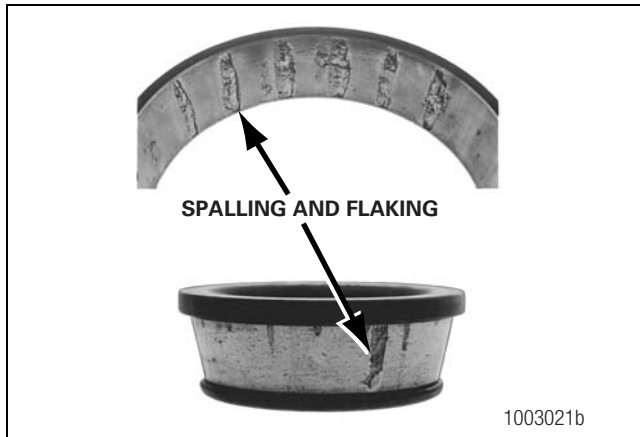

Figure 4.5
- There is damage on the cup and cone inner race surfaces that touch the rollers. Figure 4.5.